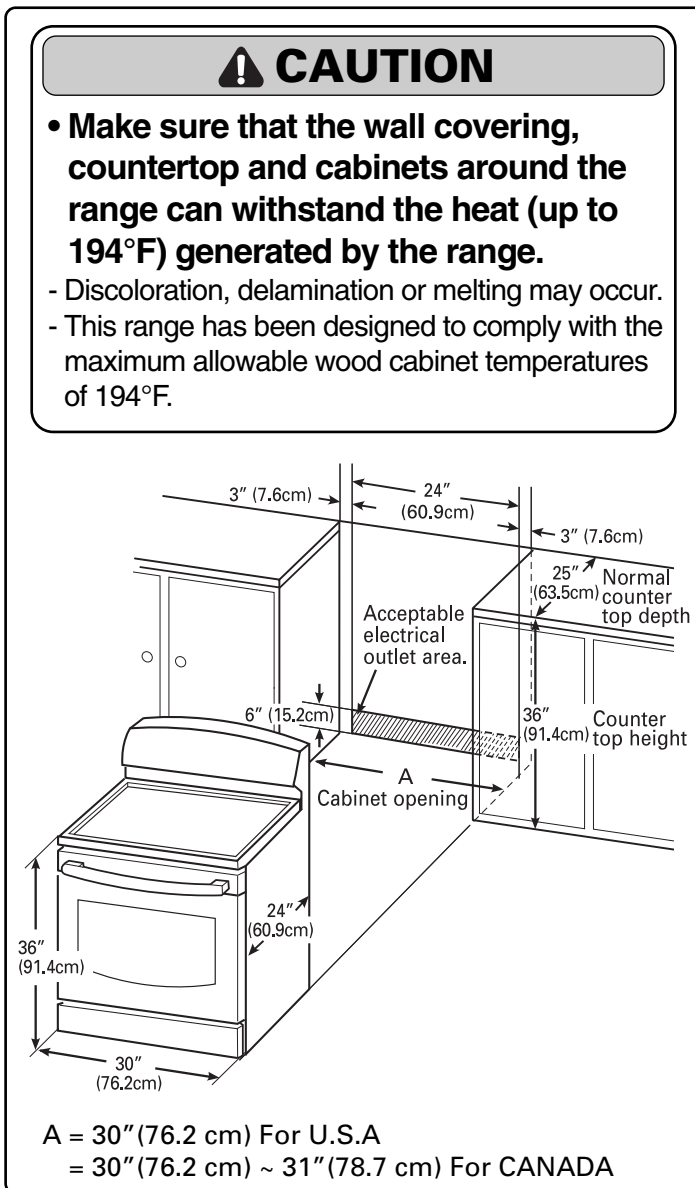

FIGURE 1
**CLEARANCES AND DIMENSIONS (Figure 1)**
To install range refer to the following Figure 1.
If the countertop depth is less than 24", the control panel will not sit flush with the countertop. (See figure 1 on page 5)